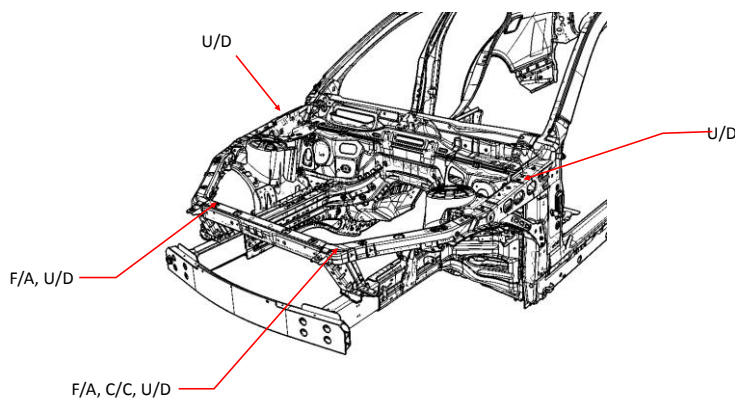

Figure 1: Hood Hinge Fixture to Body
4.3.1.1.1 Primary: Up/Down (U/D). Hinge Fixture rests on Left Hand (LH) and Right Hand (RH) fender rails and on motor compartment tie bar (see Figure 1).
4.3.1.1.2 Secondary: Fore/Aft (F/A). Fixture pins to holes in tie bar (see Figure 1).
4.3.1.1.3 Tertiary: Cross Car (C/C). Fixture pin LH hole in tie bar hole (see Figure 1).